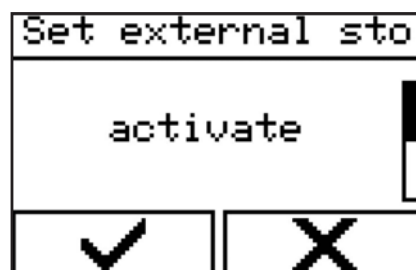

Figure 107 - Activating the stop input
2. Select 'Activate stop input' (Figure 107).